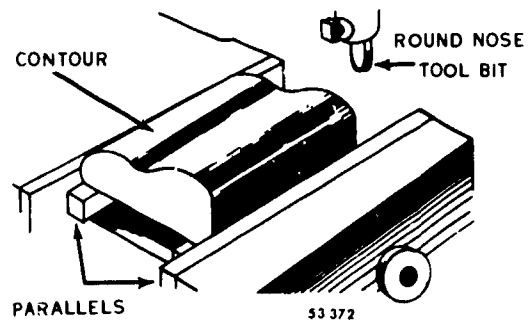

Figure 2-30 Machining a contour
**Exercises (422):**
**Irregular Shapes.** In addition to straight surfaces, which are machined horizontally, vertically, or at an angle, you can also machine irregular or contoured surfaces with a shaper. While horizontal, vertical, or angular surfaces may connect the curved portions of object, only the curved areas are considered to be contoured. The contour may consist of a single radius, or it may have several curves, such as the contoured surface shown in figure 2-30.